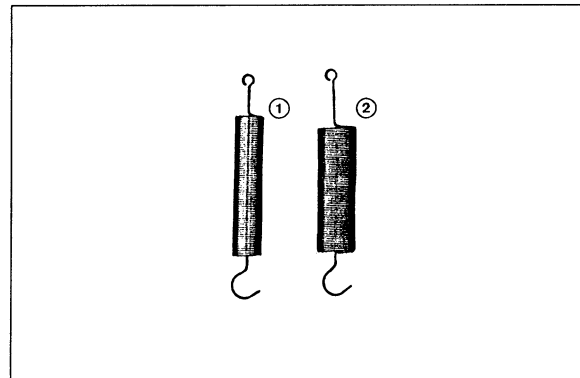

Fig. 2 (1) helical spring, 1.5 cm \varnothing
3. Attach the helical spring (1) ► fig. 2) to the sleeve block using the retaining clips.
Which of the two helical springs is harder, (1) or (2)? ► Fig. 2
11. Enter "hard" and "soft" respectively next to (1) and (2) in Table 3.